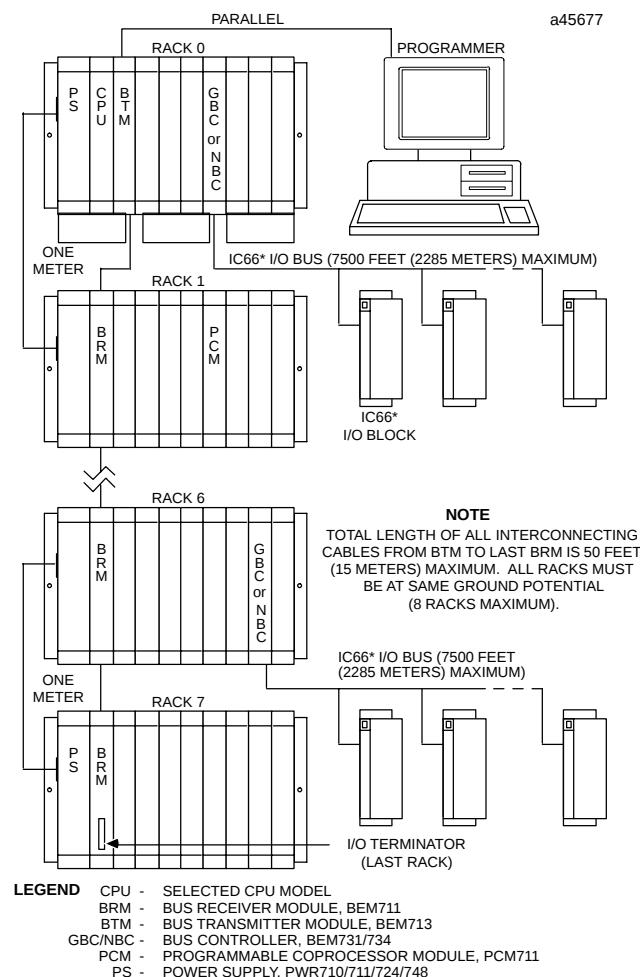

Figure 1. PLC System Configuration Example
- Install the CPX 782 module in slot 1 of rack 0 (see Figure 1).
For a parallel interface (MS-DOS programmer only) the programmer is connected to the top port on the Bus Transmitter Module (IC697BEM713) as shown in Figure 1. Consult the applicable *Programming Software User's Manual* for a description of programming functions.